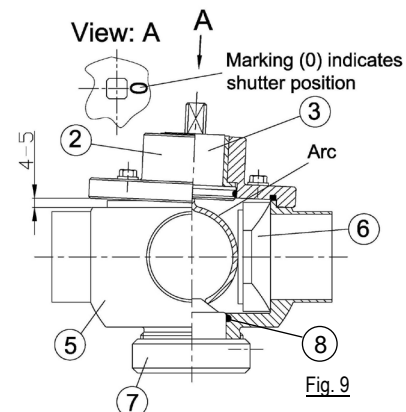

Fig. 9
2. Insert bearing bushing (9) into bearing cap (2).
3. Insert O-rings (4), (8) and (10).
4. Assemble pivoted axle with arc (3) and bearing cap (2). Pay attention to the marking (0) on the square pin of the pivoted axle (3) → indicates the shutter position (6) (see Figure 9).
5. Insert shutter (6) into valve casing (5).
6. Fit the pivoted axle with the arc (3) together with bearing cap (2) to the valve casing (5) as follows:
- a) The pivoted axle with arc (3) is designed that it exerts a defined pressure on the shutter (6) during assembly. On account of the prestress characteristics, the bearing cap (2) declines approx. 4-5mm off the valve casing (5) on the opposite side of the shutter (see Figure 9).
- c) Fasten the handle (1) in the desired position.
7. Put in place and tighten the bearing cap fixing screws (12).
8. Assemble the pinch nut (7) to the valve casing (5) by using a face pin spanner and a torque wrench: Torque 4Nm